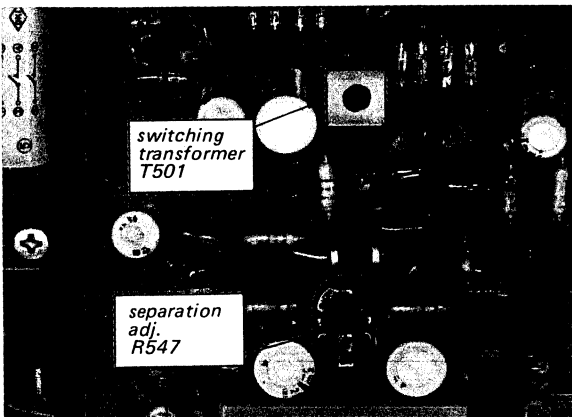

Fig. 3-10 Parts location
2. Precisely tune the set to the SSG's carrier frequency, then turn the top core of switching transformer T501, to obtain maximum output at the left channel. See Fig. 3-10. Note that this adjustment has a close relationship with stereo distortion.
5. The output-level to residual-level ratio represents the separation. Adjust separation adj. control R547 (See Fig. 3-10) for minimum residual level. Check the right channel for separation. Usually, about an 8 to 9 dB difference in channel separation exists. Re-adjust R547 for minimum difference between left- and right-channel separation. While doing this, remember that the output level also changes according to the setting of R547.